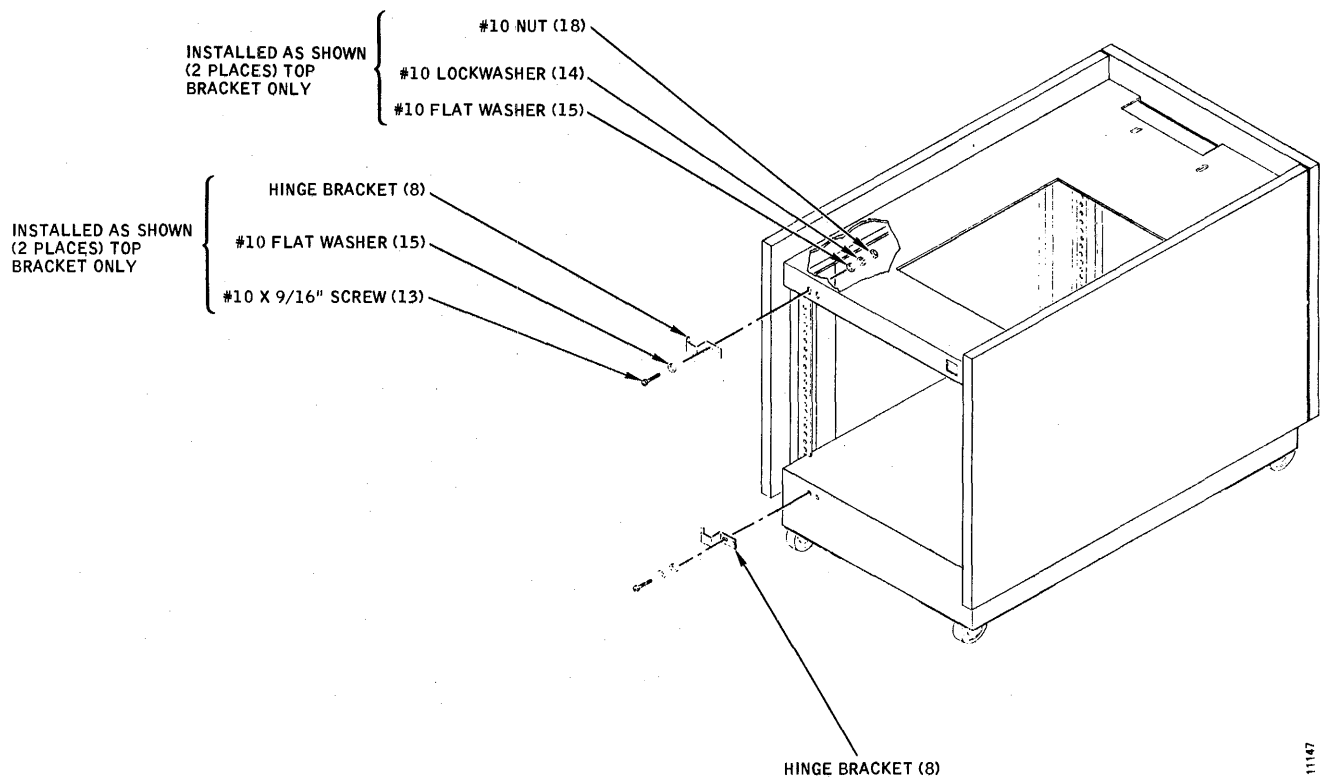

Figure A-7. Stand Assembly, Step 14
14. Install the two Door Hinge Brackets (8) on the front of the assembly, as shown in Figure A-7. The bottom hinge bracket is secured with two #10 x 9/16" pan head screws, split lockwashers, and flat washers (13, 14, 15). The top hinge bracket requires two #10 nuts for installation. Assemble the top hinge bracket to the frame by installing it as shown in the figure with its mounting hardware.